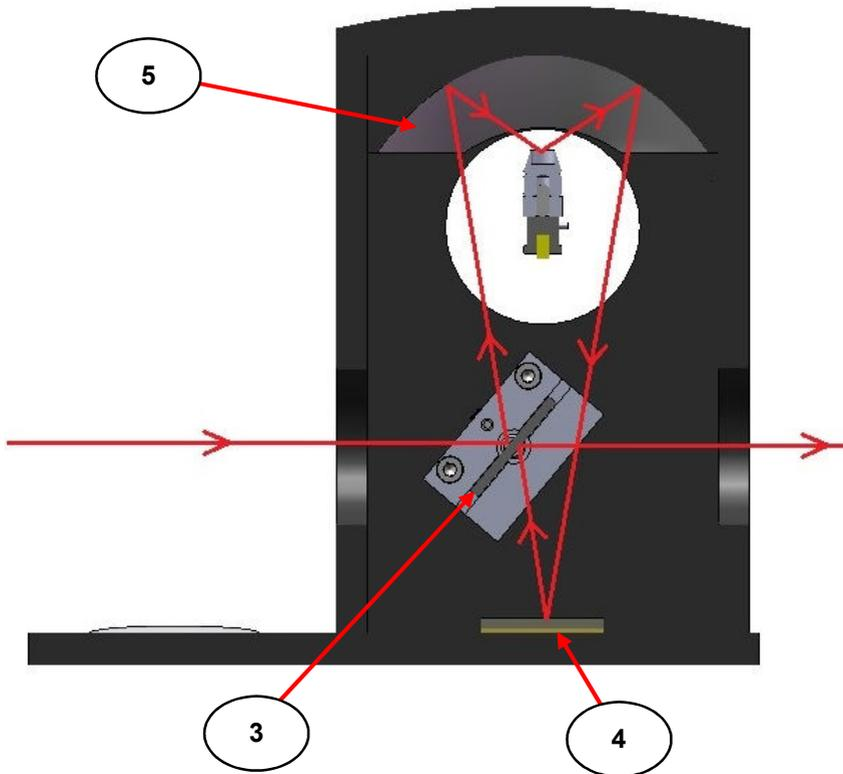

Fig 10. Beam Pathway Schematic for the Minidiff Plus Diffuse Reflectance Accessory
The optical components of the Minidiff Plus accessory consists of two flat mirror assemblies (3) and (4), below the **sampling position** level and one large ellipsoid (domed) mirror (5) that covers completely over and above the **sampling position** level. The optical beam path from source to sample and to detector for the Minidiff Plus accessory is shown in **Fig 10**.
Fig 10 shows a front cutaway, cross section view of the Minidiff Plus accessory. The mirror assembly (3) consists of a double sided mirror (17) on an adjustable mount (18). The mirror (4) is a single sided flat mirror affixed to the base of the Minidiff Plus accessory and cannot be adjusted. Similarly, the ellipsoid mirror (5) is also fixed in position at the top of the Minidiff Plus accessory and cannot be adjusted.